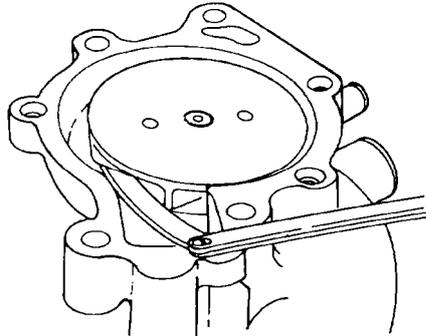

Figure 64 Checking the Impeller Clearance
- g.** Turn the water pump over and position the impeller on the shaft. Press the impeller onto the shaft until the clearance between the impeller and the pump housing (Figure 64) is 0.3 to 0.8 mm (0.012 to 0.031 in).